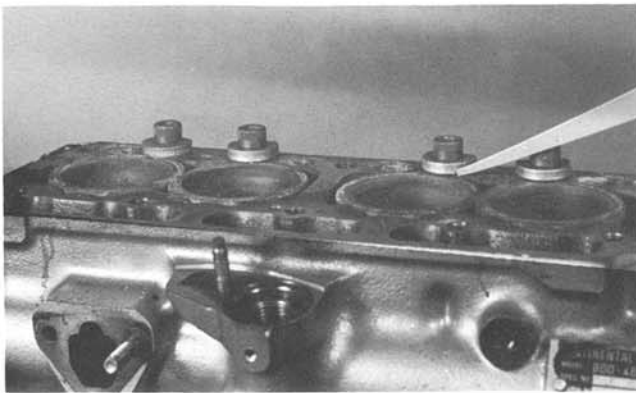

FIGURE 4. CYLINDER SLEEVE LOCKS
- Lock sleeves in place, so you will not disturb the seals (Figure 4).